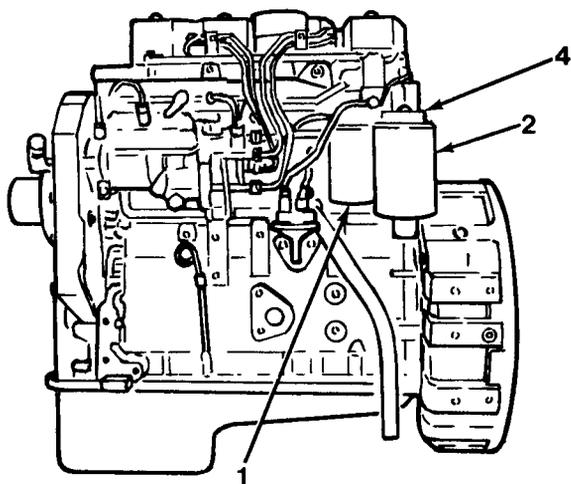

Figure 7-1
4. Connect fuel lines (2) and (1, Figure 7-1) to elbows on top of fuel tank.
2. Using a strap wrench, remove secondary fuel filter (1) and primary fuel filter (2) from fuel filter head (4, Figure 7-1).